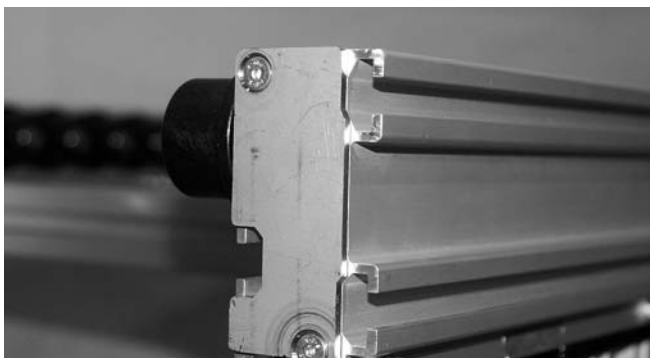
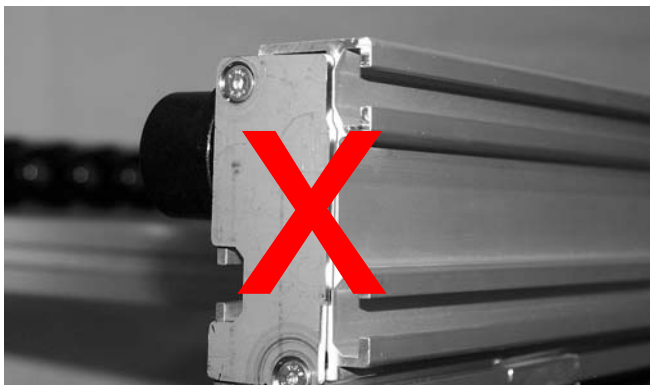

Figure 33
Figure 34
5. Tighten screws securing cover, making sure the cover is fully seated onto channel of conveyor frame. (See for examples of correct (**Figure 33**) and incorrect (**Figure 34**) installation.)